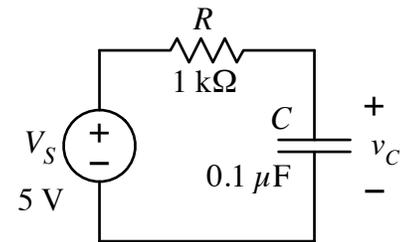

Fig. 3
1. Build the circuit shown in Fig 3. (A $0.1\text{-}\mu\text{F}$ capacitor capacitor is labeled as 104. The lab instructor can help you identify the right part.)